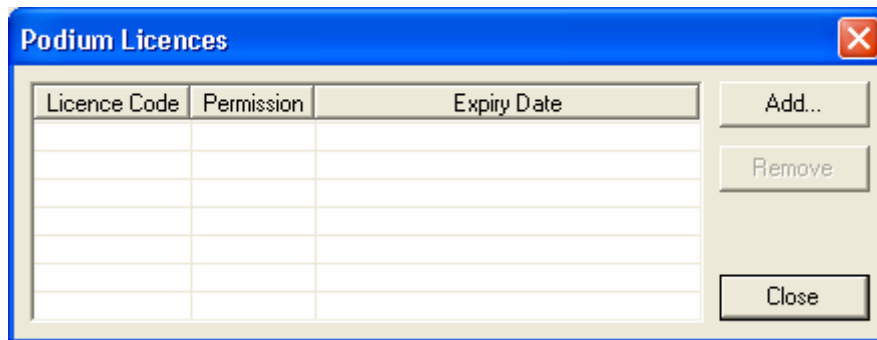

Figure 2 - Licence Details Dialog
1. Select **Help** → **Licences** from the main menu, the Licence Details Dialog (Figure 2) appears.